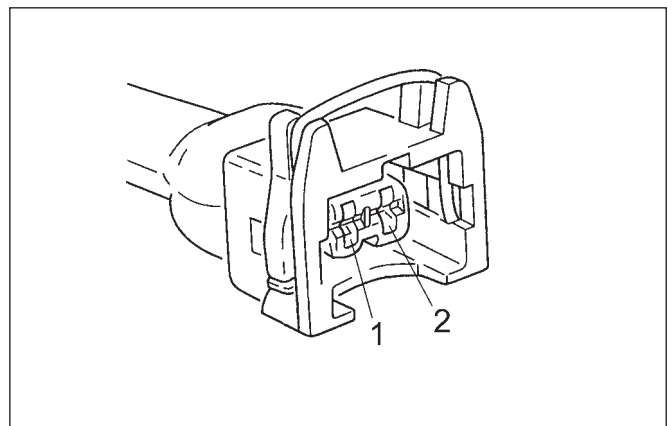

Fig. 3 Electric switch over valve connector
**Note:** The connector polarity can vary from vehicle to vehicle. The voltage supply is present at contact 1 or 2, Fig. 3. The other contact is intended for ground control purposes.
–Depending on vehicle, check voltage at connector contact 1 or 2, Fig. 3 and ground.